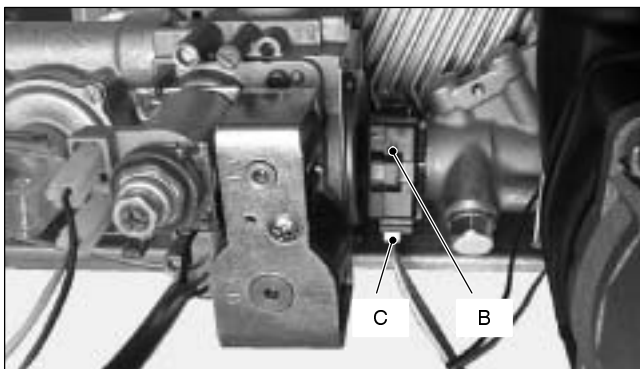

Fig. 58
- 2 Switch on the boiler and open a d.h.w. tap. The lamp B (Fig. 58) placed on the sensor body is switched on when the flow rate reaches about 2,5 litres/min'.
- 2 Disconnect the connector C (Fig. 58) and remove the sensor by pulling it towards the front of the boiler (the sensor is held in place by means of a spring).